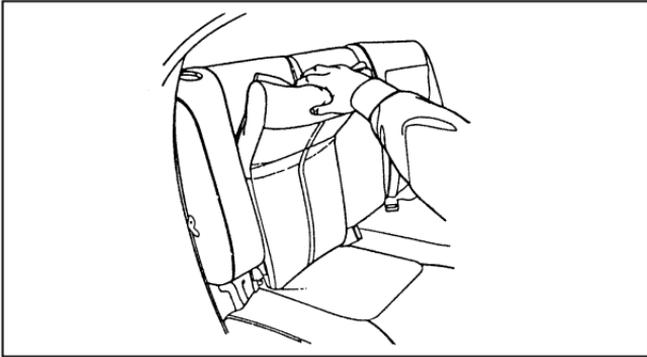

Figure 1: Releasing the flap
2. Pull down on shoulder belt, then grasp shoulder belt and lap belt together. Figure 1.
See Figure 1.